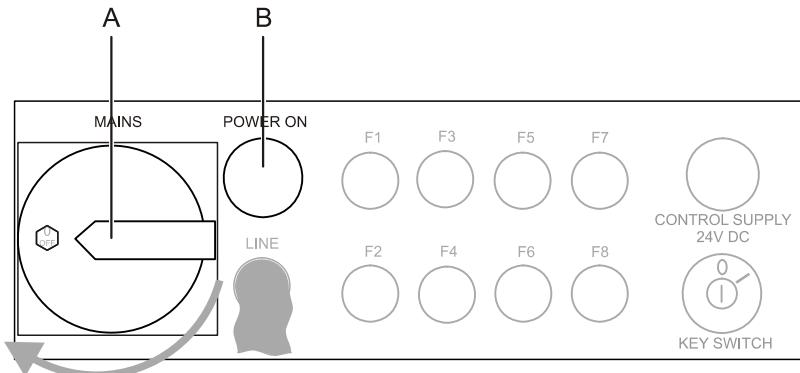

Figure 61: Switching on the laser device
- Turn the main switch (see Figure 61, A) clockwise to the ON setting. The POWER ON lamp (B) lights and various consumers in the laser device will start.